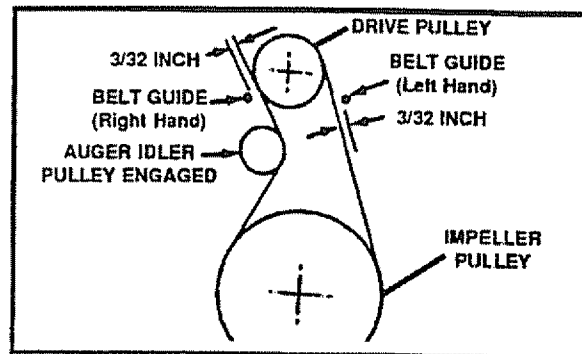

FIG. 28
- Loosen the auger idler pulley (See Fig. 28) and slip the belt out.
- Measure the distance between the belt guides and the belt (See Fig. 28). The distance should be  $3/32$ " for each guide.